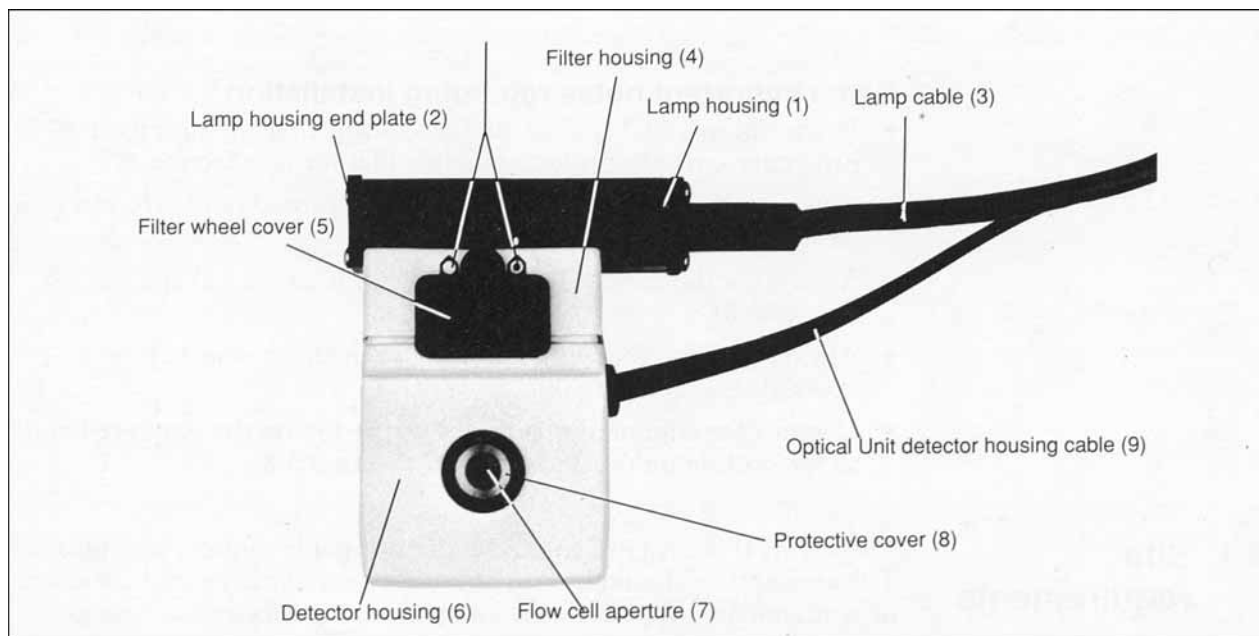

Fig. 4. Optical Unit
4. Place the protective cover around the flow cell (see Fig. 4) to protect the electronics inside the Optical Unit from liquid spillage. Avoid spillage as much as possible for prolonged monitor lifetime.